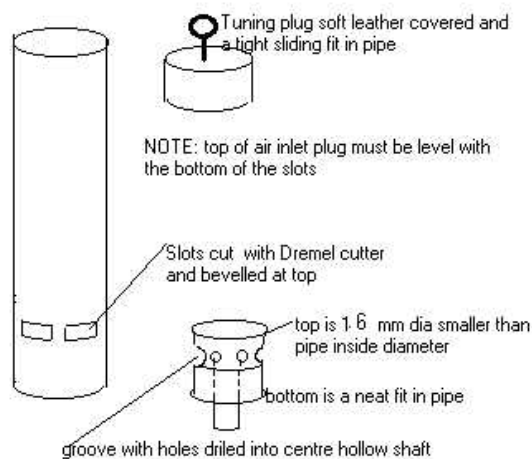

Fig 5. Plastic Pipe
Metal pipes consist of six (6) parts: base tube, base plug, inlet pipe, saddles (or stand-offs), main pipe (which is the resonator) and tuning plug and is illustrated in photo 2. Plastic pipes have a one piece tube in which slots are cut and consist only of the tube, base or inlet plug, inlet pipe and tuning plug and is illustrated in fig 5.
should do. Avoid softer woods as these will dehydrate and fall out of the pipe. The base plug should be a driving fit in the base of the pipe. It consists of the base, a semicircular section groove about 3/4 of the way up into which holes are drilled towards the centre, meeting a vertical hole from the base. This is the air way (or languid of organ pipes). The top of the plug is 1.6 mm (1/16th inch) smaller in diameter than the base to allow a circular stream of air to be directed against the bevelled lip of the main tube (see illustration, fig 5). This 1.6 mm difference is consistent throughout the range of pipes. This results in 0.8 mm gap respectively all the way around. This is very small and requires a measure of precision in manufacture, and in reality, requires a lathe. An alternative plug could be made from 3 flat disks separated by spacers, either metal or perspex or somesuch, the top disk being 1.6 mm smaller diameter than the other two. (see fig 6.) **Tip:** to fit the base plug so that the gap is even all around the inside of the pipe, use a bearing or gear puller. Fit the claws in the slots (see below) or over the top part of the base pipe and fit a small piece of metal over the base hole for the tip of the advance screw and then simply screw it up until the top of the plug contacts the claws..